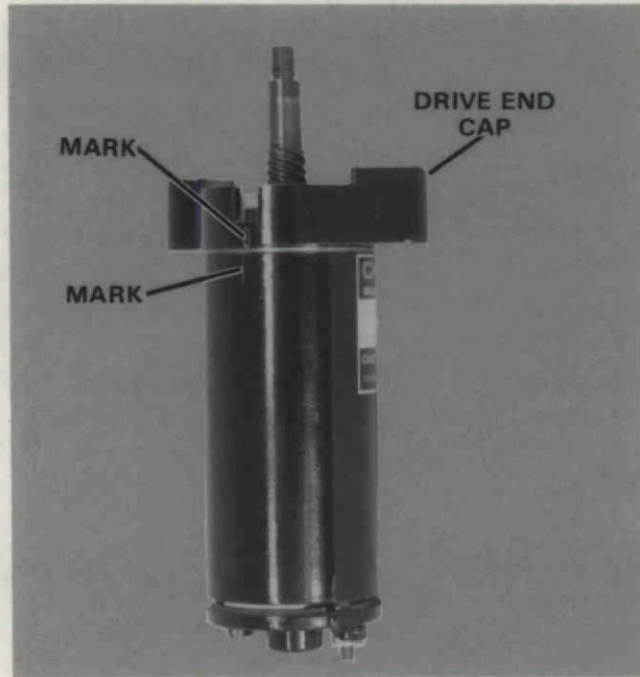

Figure 57. Reassembly of Starter Motor.
- 3. Assemble armature to body. Align the mark on the body to the mark on the drive end cap. Figure 57.